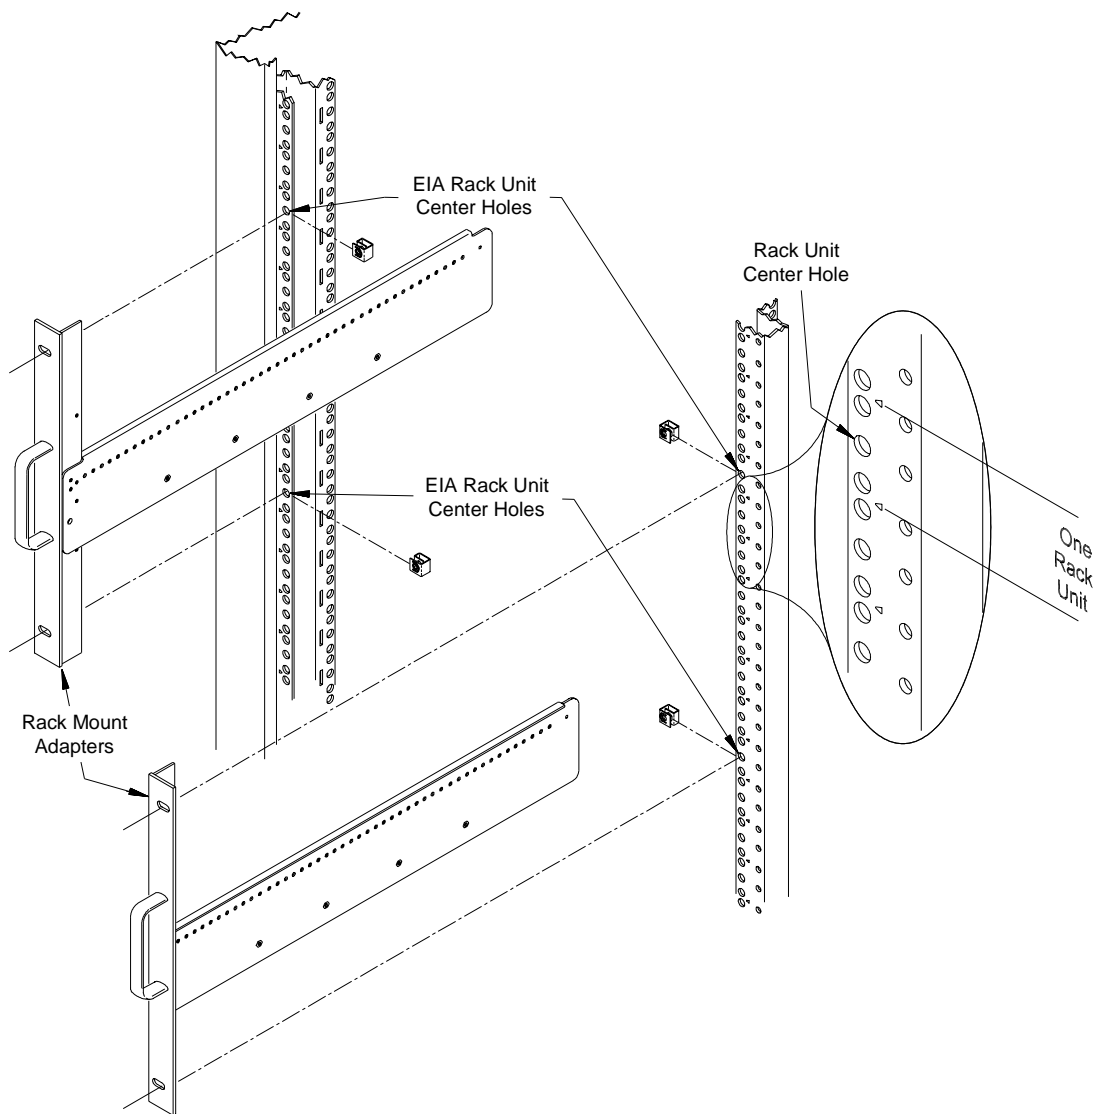

Figure 2-2. Positioning the Mainframe in the Rack.
2. Using the rack mount adapters as templates, position the adapters on the rack's vertical rails where the mainframe is to be mounted. Align the adapter holes over the "center" holes of the EIA rack units (Figure 2-2).